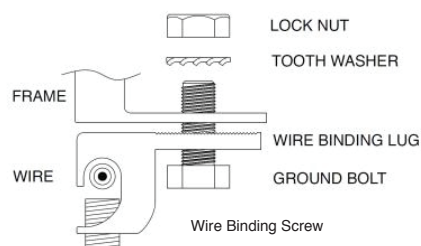

Figure 2 (IlSCO, GBL-4DBT)
### (1) Grounding Using Existing Ground Hole (Figure 2, GBL-4DBT)